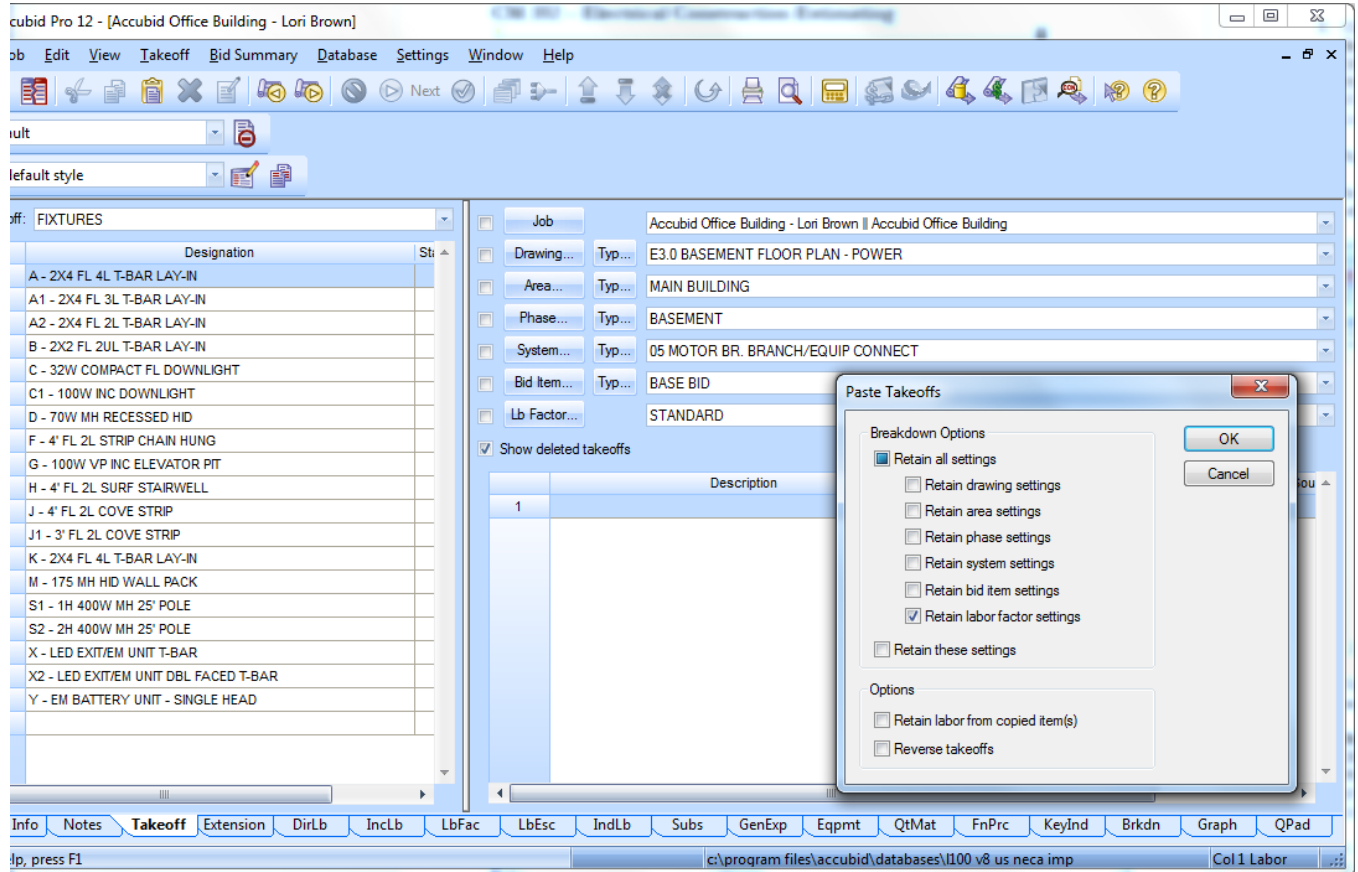

Fig. 2
10. In the Paste Takeoffs dialog box under Breakdown Options select “Retain all settings” and leave all other boxes unchecked as shown in Fig. 2 and click OK.